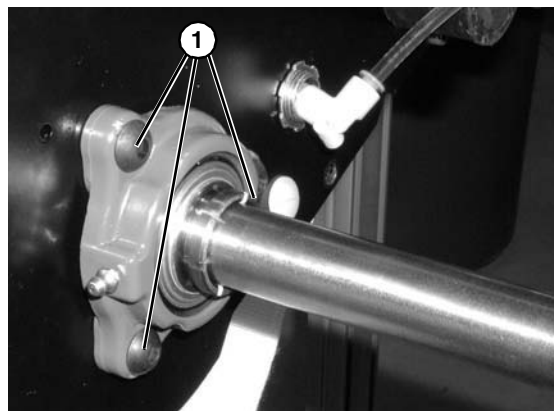

Figure 89
6. Tighten three (3) mounting screws (**Figure 89, item 1**) to 200 in-lbs (22.5 N-m).